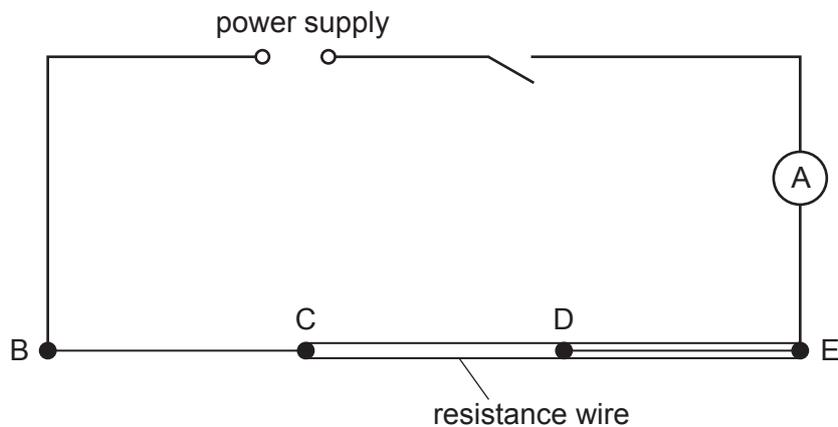
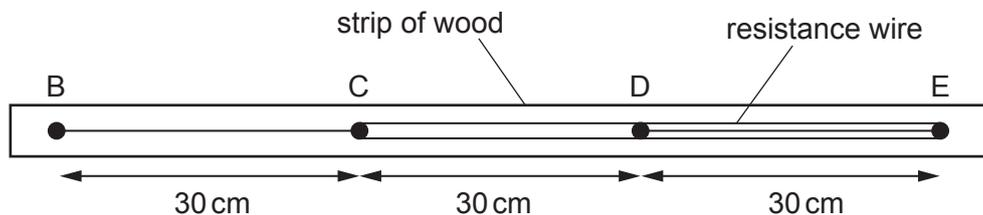

Fig. 3.1
Fig. 3.2
- (vi) Four suitable terminals labelled B, C, D and E fixed to a wooden strip at 30 cm intervals, as shown in Fig. 3.2, so that connections can be made to the circuit shown in Fig. 3.1.
- (vii) Sufficient connecting leads to set up the circuit shown in Fig. 3.1. Two additional leads should be connected to the voltmeter.
2. The circuit is to be set up for the candidates, as shown in Fig. 3.1 and Fig. 3.2.
Check that the circuit is arranged as shown in Fig. 3.1.